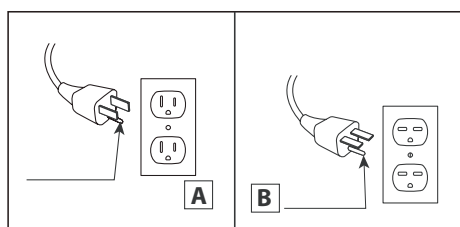

Fig.1
12. Connect to properly grounded outlets only. This heater is for use on 120 volts. The cord has a plug as shown at A in Fig.1 Do not use a 2 prong adapters. Never use with an extension cord or relocatable power tap (outlet/power strip).